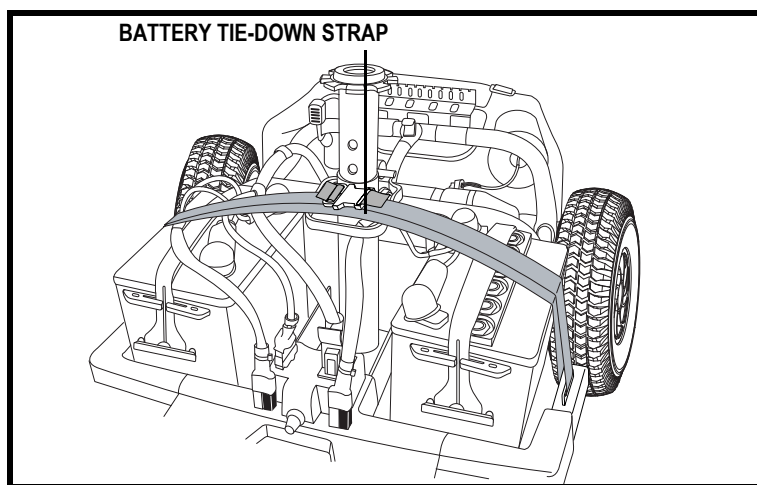

Figure 13C. Battery Tie-Down Strap
11. Reconnect the battery tie-down strap, making sure the strap is positioned over the frame release lever to ensure proper securement. See figure 13C.